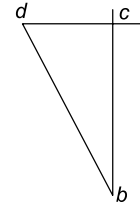

Figure 7.13
The reaction R_2 can be determined by considering joint (2), i.e. joint BCD , as shown in Figure 7.13, where the vector bc represents the unknown reaction R_2 which is measured as 2.18 kN.